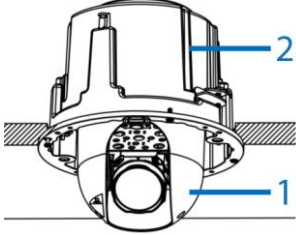

Figure 6
9. Push the camera (1) (Figure 6) into the camera housing (2) (Figure 6) until it is **temporarily** secure in the camera housing.